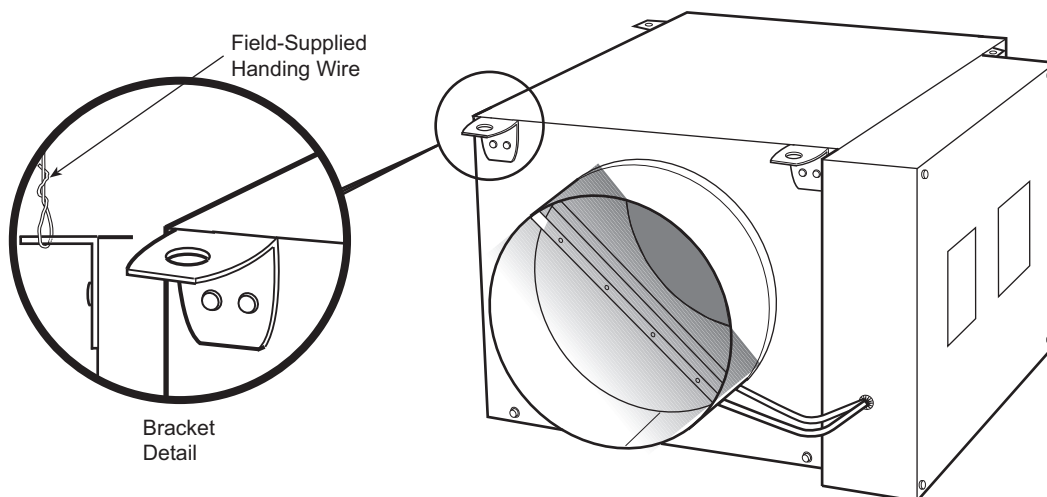

Fig. 4 — Typical Unit Suspension with Brackets
See Fig. 4 for unit suspension details.
2. Optionally, the unit may have factory-installed hanger brackets (as shown in Fig. 4).